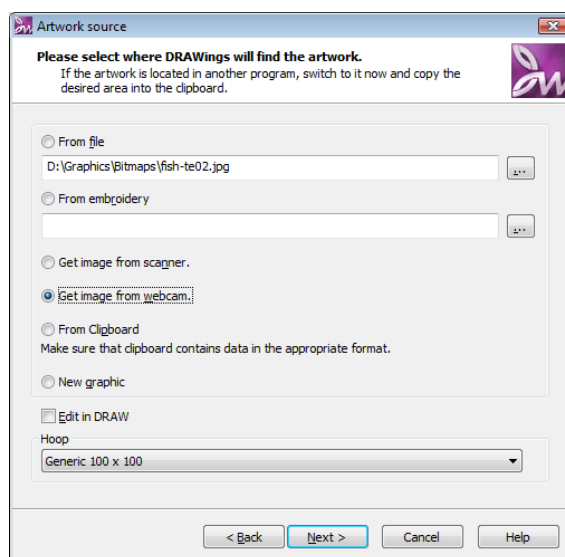

Figure 2.20: Starting dialog - 2nd page
4. The **Artwork source** dialog will appear (Figure 2.20)